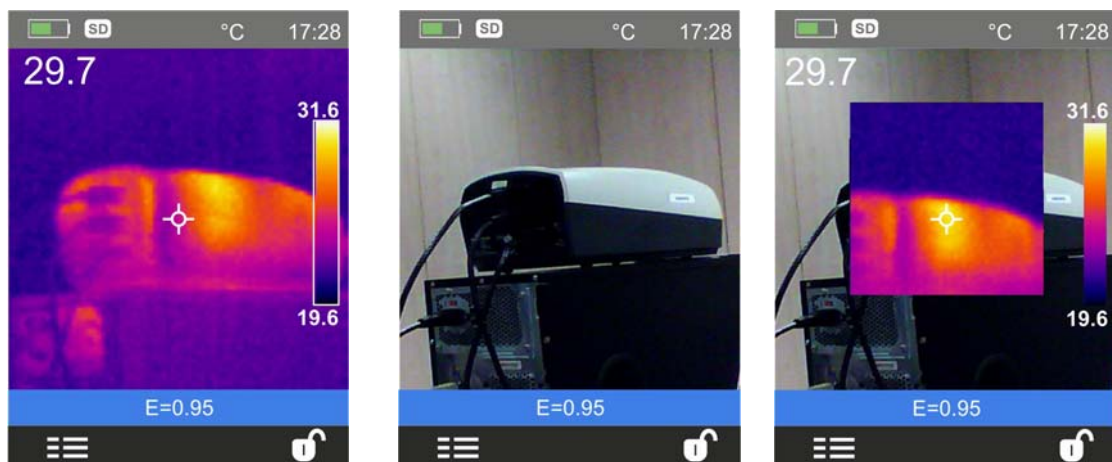

Fig. 20: Image display modes
2. Use the keys or to select the desired display mode among the options: **IR** (infrared image), **Visual** (visual image), **Fusion** (fusion of IR image into the visual one) (see Fig. 20)